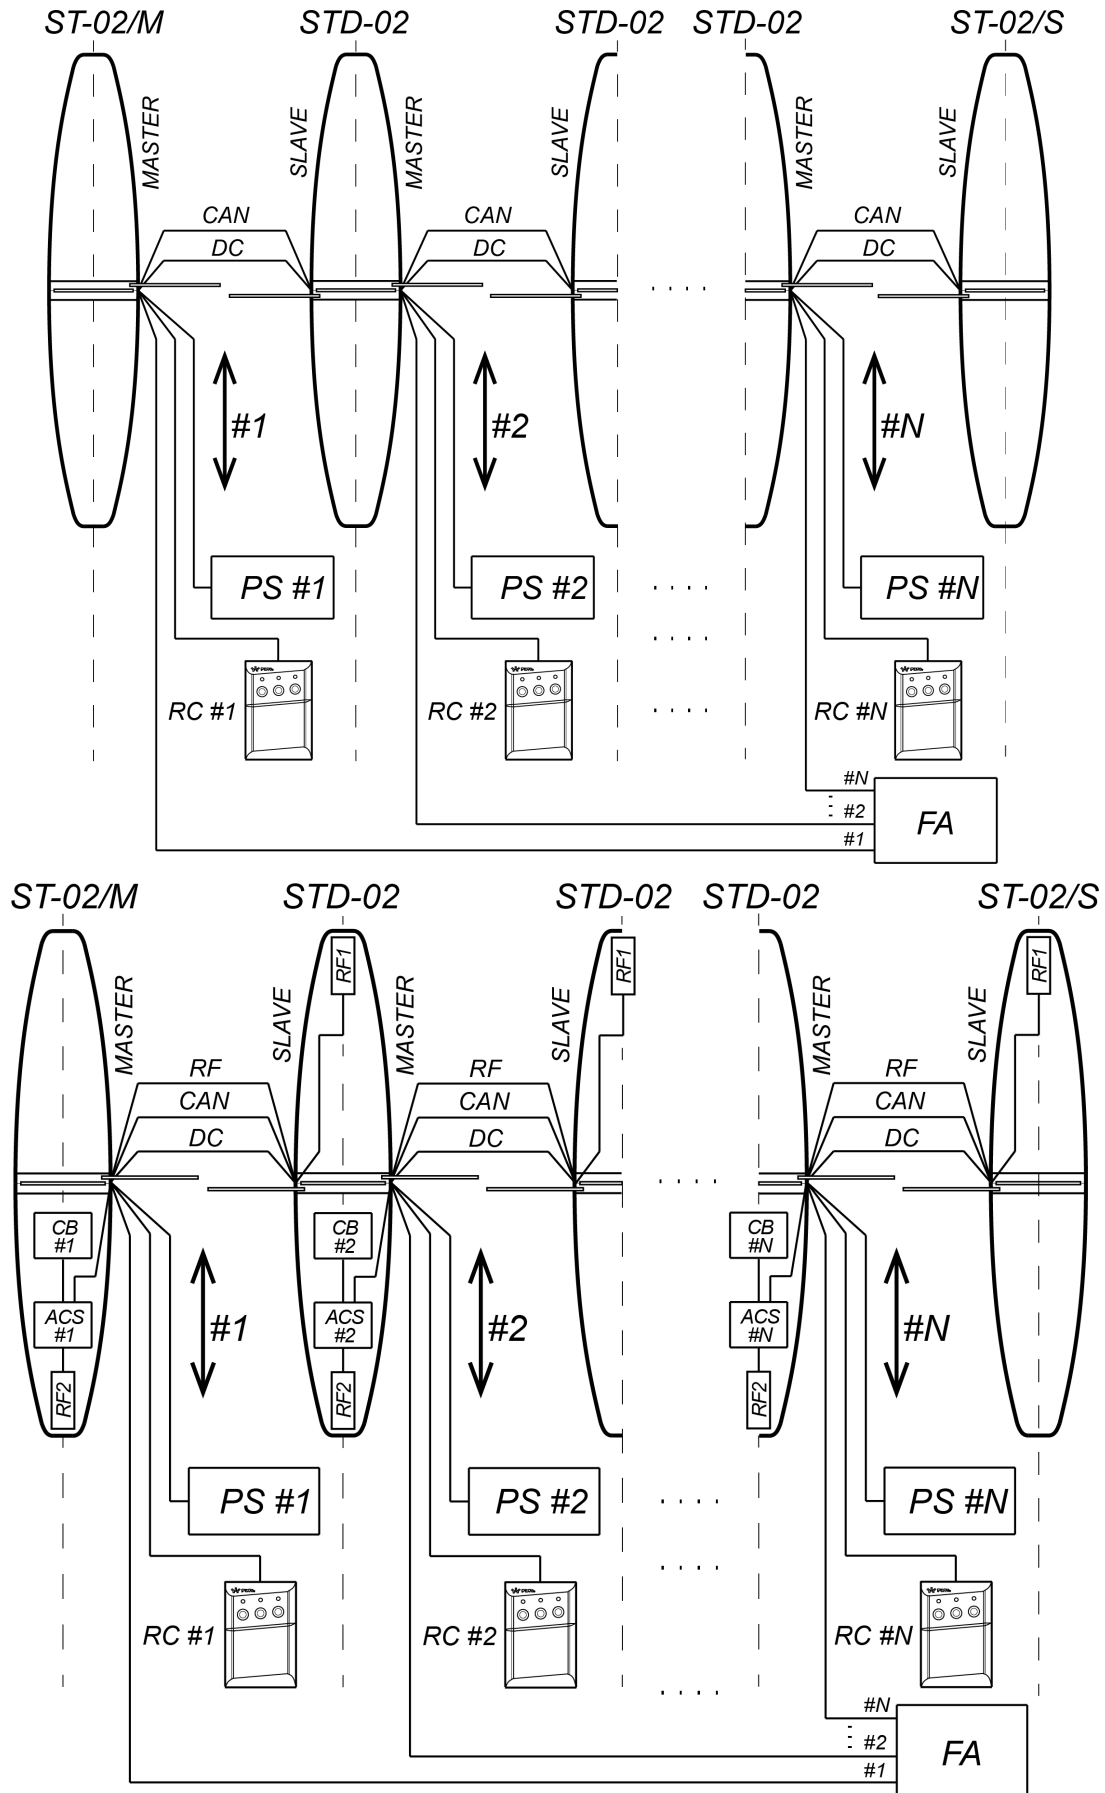

Figure 16. ST-02 and STD-02 wiring diagrams for the organization of a checkpoint with several (N) passage lanes
- channels for cable connection from external devices – power supply (12), RC-panel (11) or ACS-controller, *Fire Alarm* (13) device and other optional equipment- to the input holes of the *Master* section and to the input of the double-sided sections;
- channels that connect holes for leading in cables of opposite sections (sides of double-sided section) of one passage lane – for leading in DC (9) and CAN (10)¹ connection cables, and also for installation of built-in readers – cable for reader connection from the *Slave* section to the ACS controller (RF cable on layout in Fig. 16 and Fig. 18).